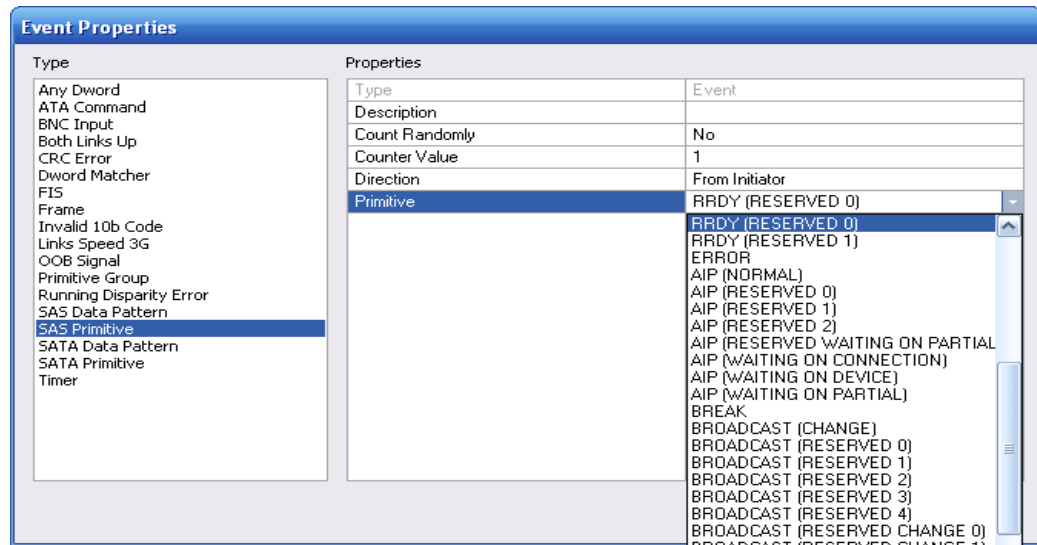

Figure 60 Example 4: Event Drop-Down List
Step 4 The Event Properties dialog box appears. Using the drop-down menu, choose **RRDY (Reserved 0)** as the second event to monitor (Figure 60).